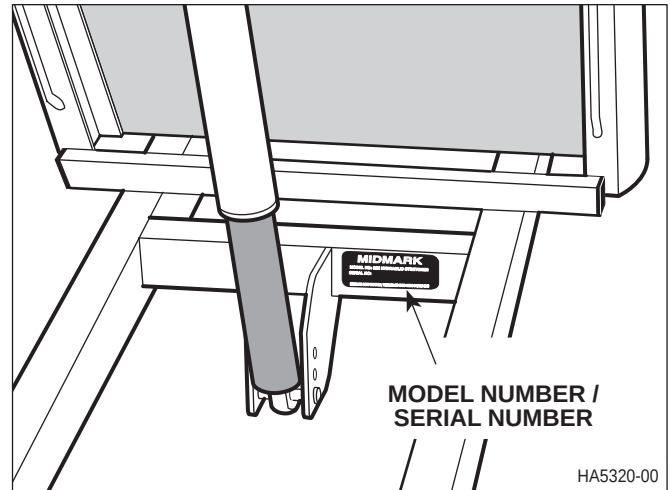

Figure 1-2. Model Number / Serial Number Location
- (1) Refer to Figure 1-2 to determine the location of the model number and serial number of the stretcher and record this data.